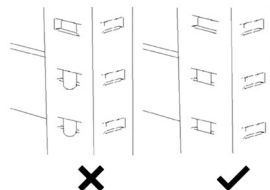

Fig. 4
- a. Make sure the attachment is proper and secure (Fig. 4).